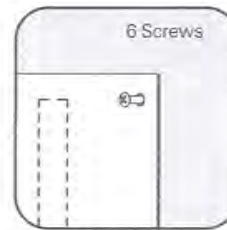

Figure 4
- a. Measure 3/4" (19.00mm) up from end of drill bit and mark on bit 1.5 Use the #1 or #2 Phillips Head Bit, install all 6 Pürleve Door Plate Screws (Fig. 4)